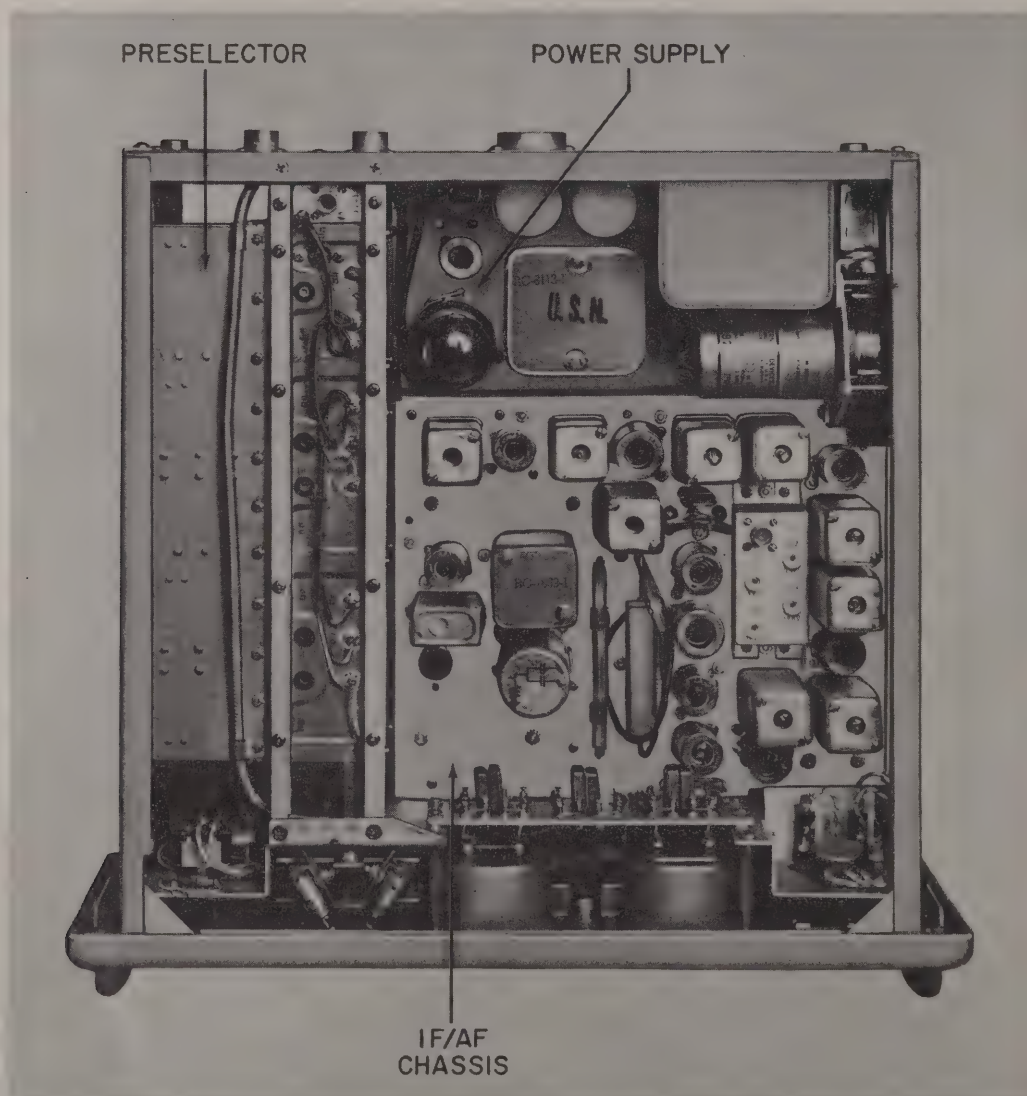

Figure 1-4. Radio Receiver R-482/URR-35, Identification of Major Subassemblies
b. FRONT PANEL AND CHASSIS FRAME ASSEMBLY.—An aluminum frame, attached to the front panel, mounts the preselector, IF/AF and power supply chassis to form a complete chassis assembly; see figure 1-4. The panel is finished in a gray enamel, which blends with the color of the cabinet and is fitted with handles to permit withdrawal of the panel-and-chassis assembly from the cabinet. A spring-stop mechanism on each side permits nearly complete withdrawal of the chassis from the cabinet, but prevents its falling out due to roll, tilt, shock or vibration. When these stop mechanisms are pressed upward by the fingers through holes in the bottom of the chassis frame, the panel-and-chassis assembly may be completely withdrawn. The two hinged doors on either side of the front panel are held closed by knurled-head spring fasteners. These are released by a half-turn to the left, giving access to crystals, fuses and the semi-fixed controls or adjustments.
c. PRESELECTOR SECTION. (See figures 1-4, 2-2 and 2-3.)—The preselector section is mounted along the left side of the chassis frame, and comprises all parts of the r-f amplifier-converter and oscillator-multiplier sections. The r-f amplifier section is above the oscillator-multiplier section, and each consists of an aluminum casting with removable covers. The two r-f amplifier stages and the mixer, or first detector, are mounted in the r-f amplifier-converter section. The basic oscillator, two frequency-doubler stages and a frequency-tripler stage are mounted in the oscillator-multiplier section. Partitions in the castings provide r-f shielding between stages.
e. IF/AF SECTION.—The IF/AF section of the chassis is shown in figure 1-4. It is located on the right-hand side of the chassis frame, and mounts the second mixer and oscillator, the i-f stages, the a-f detector, the automatic-gain-control (AGC) circuit, the silencer circuit, the noise-limiter circuit, and the three stages of audio amplification.
f. POWER SUPPLY SECTION.—The power supply section of the chassis, shown in figure 1-4, is mounted